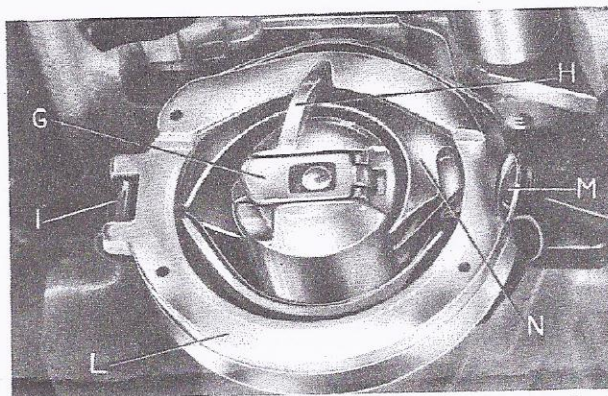

Fig. 2
- Lift latch «G» (fig. 2) and remove bobbin case.
- Insert bobbin case on centre stud of shuttle, holding it by latch «G» and taking care that finger «H» goes into notch of shuttle ring (fig. 2). Release latch «G» and press on bobbin case until a click is heard.
- push spring «M» (fig.2) sideways and remove shuttle ring «L» by turning it around hinge «I»,